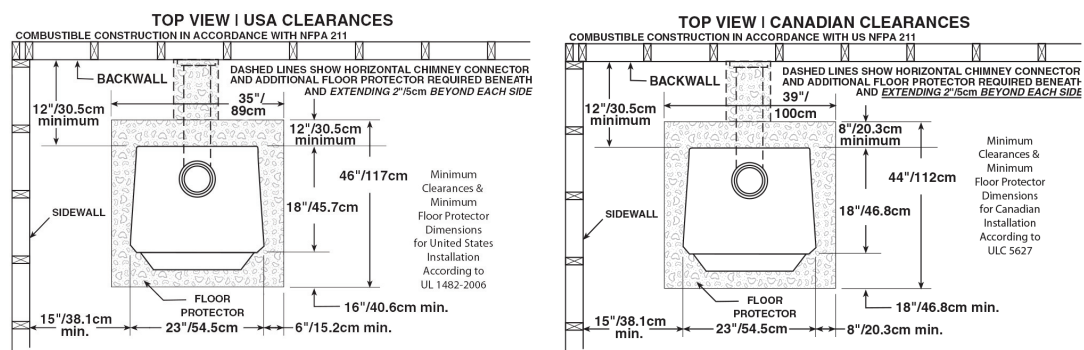

Fig. 6 – Top View Minimum Clearance Dimensions from Combustible Surfaces
3. DO NOT store wood, kindling, flammable liquids, or other combustible materials in the vicinity of the appliance. Refer to certification label on back of unit and reference figures 6–8 in this manual.
9. DO NOT CONNECT A WOOD BURNING STOVE TO AN ALUMINUM TYPE B GAS VENT. This is not safe. Use approved masonry or an Underwriters Laboratories Listed UL 103 HT (US)/ULC-S629 (CDN) Residential Type and Building Heating Appliance Chimney. Use a 6"/152mm diameter chimney, that is high enough to give a good draft. (See specifics in Chimney Connections instructions).
1. The stove must be placed on solid concrete, solid masonry, or when installed on a combustible floor, on an listed UL 1618 Type 2 floor protector, such as Hy-C or Imperial Model UL 3648BK (US) or UL4048BK (CAN) or equivalent. Floor protector must be **1/2" / 13mm minimum thickness** ("k" value = 0.84, R value = 0.59, see page 23 for calculation formulas) non-combustible material or equivalent. **US Requirements:** The floor protector must extend at least 16" / 41cm beyond the front of the access door, 6" / 15.2cm to the sides, 12" / 30.5cm beyond the rear and must extend under and 2" / 51mm beyond either side of the stove pipe connector if it is elbowed towards a wall. (See figures 6–8 and consult local building codes and fire protection ordinances.) **Canadian Requirements:** The base must extend at least 18" / 46.8cm beyond the front of the access door, 8" / 20.3cm to the sides, 8" / 20.3cm behind the stove and must extend under and 2" / 51mm beyond either side of the stove pipe if it is elbowed towards a wall. (See figures 6–8 and consult local building codes and fire protection ordinances).
4. After observing the clearances to combustible materials (figures 6–8), locate your floor protector accordingly (figure 6) and carefully place the stove in your selected location. Install stove pipe, elbows, and thimble as required, utilizing either a recently cleaned and inspected 6" / 152mm masonry chimney or a 6" / 152mm i.d. UL 103 HT (US) / ULC-S629 (CDN) listed manufactured chimney.
5. Use round 6" / 152mm dia., minimum 24 MSG black or 26 MSG blue steel stove pipe to connect the stove to the chimney. **DO NOT USE GALVANIZED DUCT PIPE AS A CONNECTOR.** Secure pipe/elbow sections with a minimum of three (3) equally spaced sheet metal screws at each joint and at the stove collar to make the pipe rigid. **DO NOT CONNECT THIS STOVE TO ANY AIR DISTRIBUTION OR DUCT SYSTEM.**
6. Recheck clearances from the stove, connector stove pipe, and corner clearances using the illustrations in figures 6–8 and
CAUTION: (FIRE HAZARD) CARPETING AND OTHER COMBUSTIBLE MATERIAL SHALL NOT COVER THE FLOOR PROTECTOR. THESE MATERIALS MUST REMAIN OUTSIDE OF COMBUSTIBLE CLEARANCES, SEE FIG. 6 – 8.